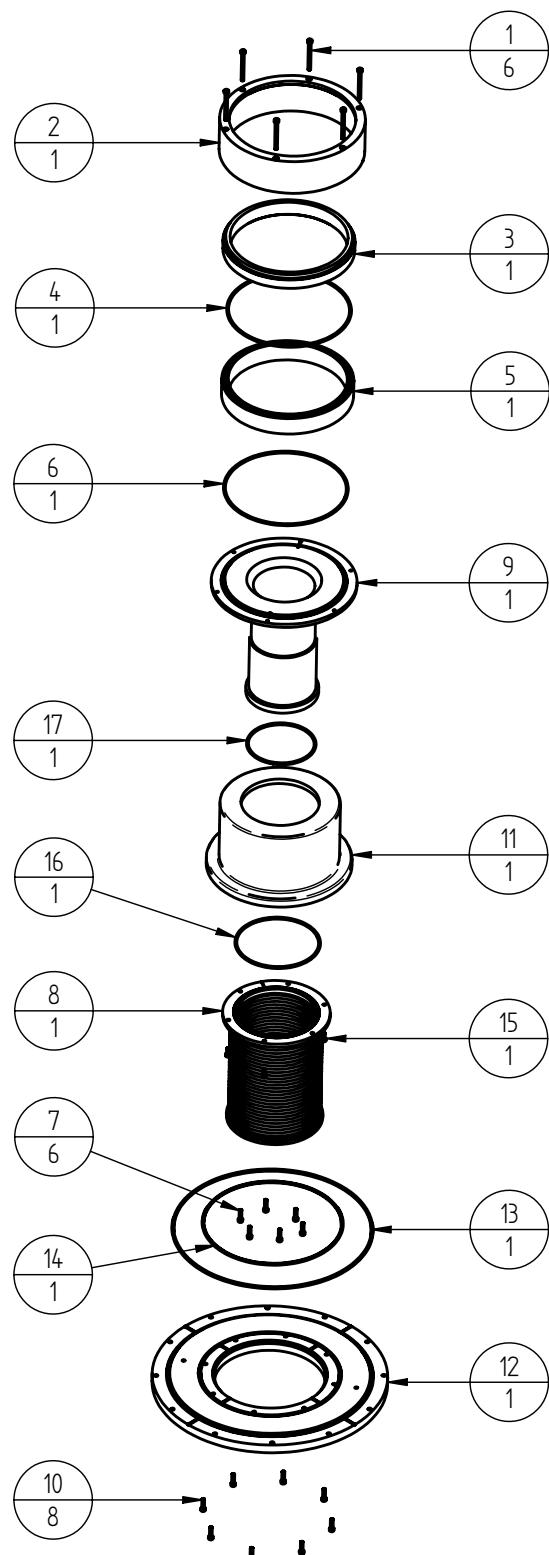

Figure 4.17 Electrode Bellows and Stem Assembly
1. Refer to Figure 4.17.
4. Remove six M5 x 60 screws (1) then remove platen shield (2).
5. Remove platen upper isolator (3).
6. Remove and discard O ring (4).